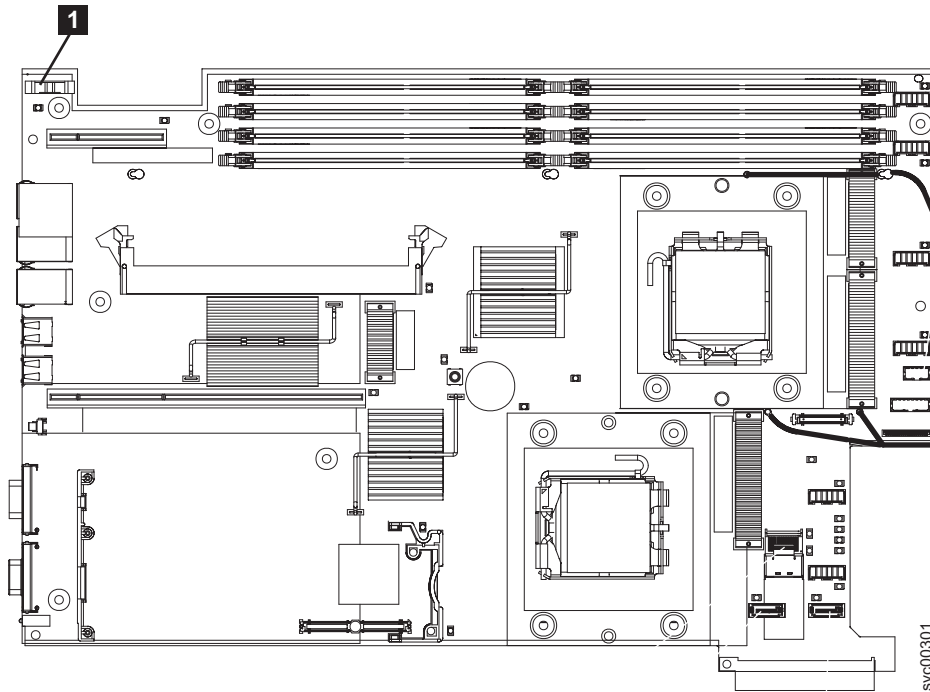

Figure 132. Location of SAN Volume Controller 2145-8G4 CMOS battery holder
3. Locate the battery **1** on the system board. Figure 132 shows the location of the battery.